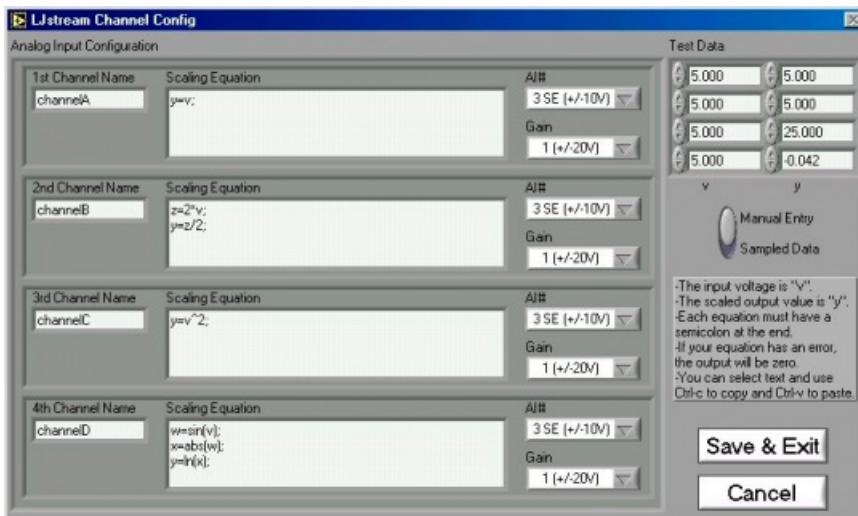

Figure 3-13. LJstream Channel Configuration
- **Configure Channels:** Click this button to bring up the channel configuration window shown in Figure 3-13.
Figure 3-13 shows the LJstream channel configuration window. Here you can select analog inputs and gains and enter scaling equations. Use “Test Data” to see the effect of the scaling equations (“v” column is the measured voltage and the “y” column is the output of the scaling equations). “Manual/Sampled” determines where the “Test Data” in the “v” column originates.